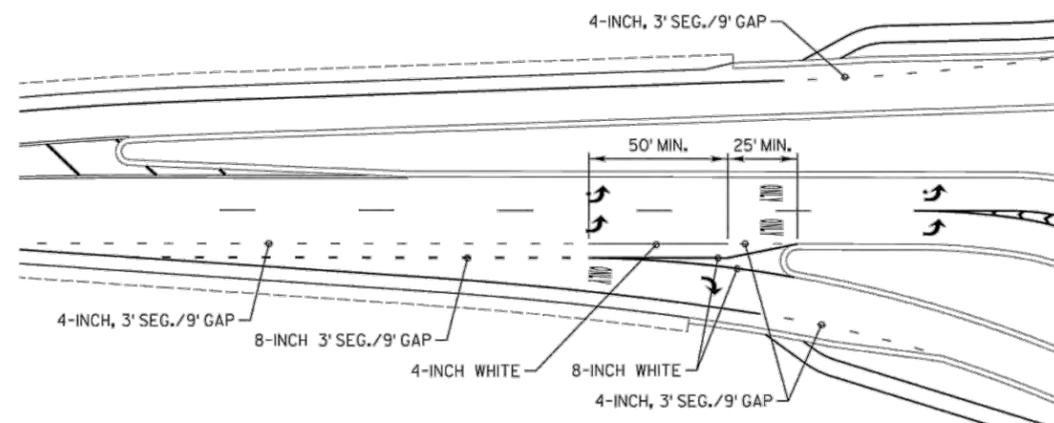

Figure 35.6 Bike Lane Roundabout Marking
- When required, bike lane markings should be placed as per Figure 35.6.
Bike lane marking within the circulatory roadway is not permitted on any roundabouts. Refer to Figure 35.6 for Bike Lane markings on roundabout approaches.